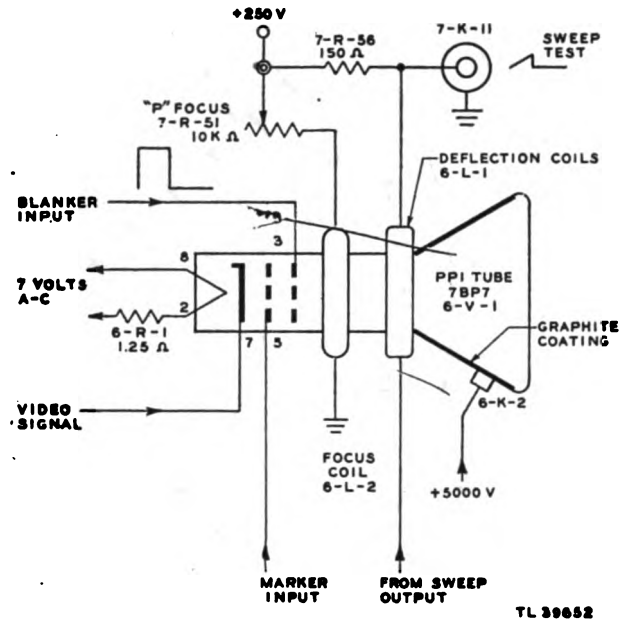

Figure 112. PPI scope, simplified schematic diagram.
(3) The plate current of the sweep output tubes flows through the cathode-ray deflection coils, setting up a strong magnetic field. This magnetic field causes the beam path to move away from the center of the tube toward the periphery. The distance moved is in direct proportion to the strength of the applied field. Since the deflection coils are coupled to the antenna through a selsyn synchronizing system, the coils rotate at the same speed as the spinner assembly. Thus the trace line appears as a straight line, one end pivoted at the center of the scope screen, the other end free to rotate in either direction.
(4) It is necessary for each sweep trace to start at the center of the scope for accurate echo interpretation. This means the flux in the deflection coil must collapse to zero before the next sweep starts. If trouble is experienced on the 160,000- and 240,000-yard ranges, where there is less time for the coil field to collapse, resistors 7-R-66 and 7-R-67 may be added. These resistors take a current from the 400-volt source and pass it through the deflection coil, opposing the sweep current and hastening the collapse of the coil flux. Final resistor values are determined experimentally, but approximate values of 220,000 ohms for 7-R-66 and 82,000 ohms for 7-R-67 are recommended. Do not add these resistors unless absolutely necessary for operation of a particular set.
**h. PPI SCOPE.** (1) A simplified schematic of the scope circuit proper is illustrated in figure 112. The cathode-ray tube used in this equipment is a type 7BP7. The indicating device is the electron beam developed and magnetically focused and deflected. The effect of the focusing field is varied by adjusting the current through the focusing coil 6-L-2 by varying focus control 7-R-51. Deflection is controlled by varying the field around deflection coil 6-L-1 which is wound on an iron yoke that slips over the neck of the tube. Initial electron beam acceleration is supplied by applying 250 volts from the blanke stage to the first anode. Further acceleration is produced by applying +5,000 volts to the No. 2 or accelerating anode. The accelerating anode in the type 7BP7